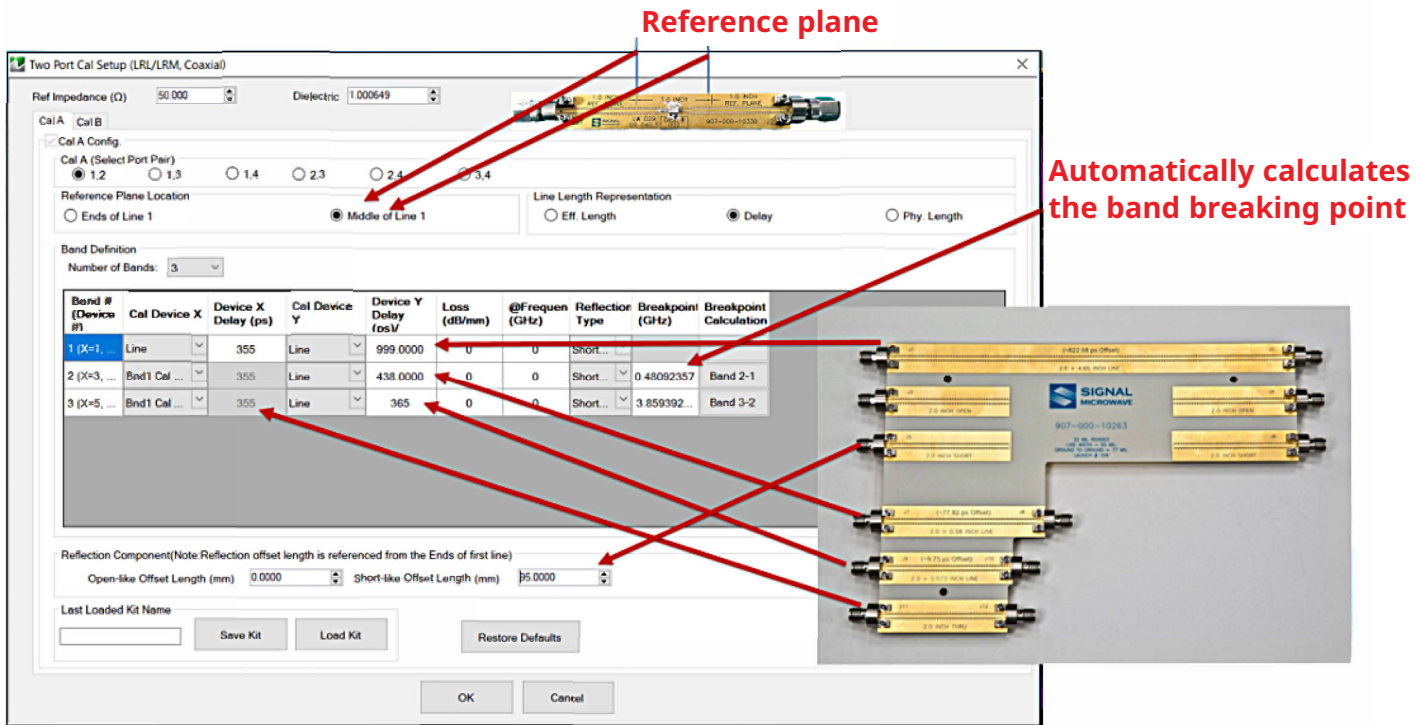

Figure 3. LRL Menu Setup
- Enter the values in the ShockLine LRL table as shown in Figure 3. Specifically, select **Middle of Line 1**. This will move the reference plane to where the DUT is placed.